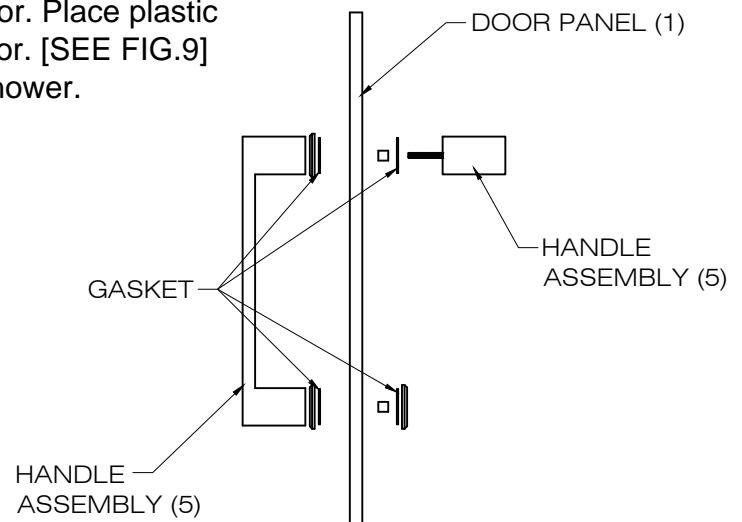

FIG. 9
2. Place the handle to the position on the door. Place plastic washers (supplied) on each side of the door. [SEE FIG. 9]